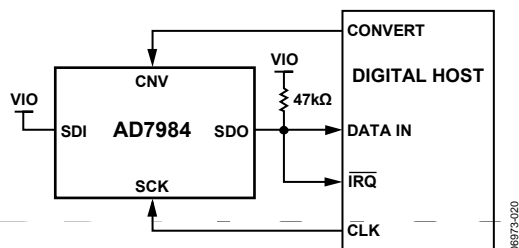
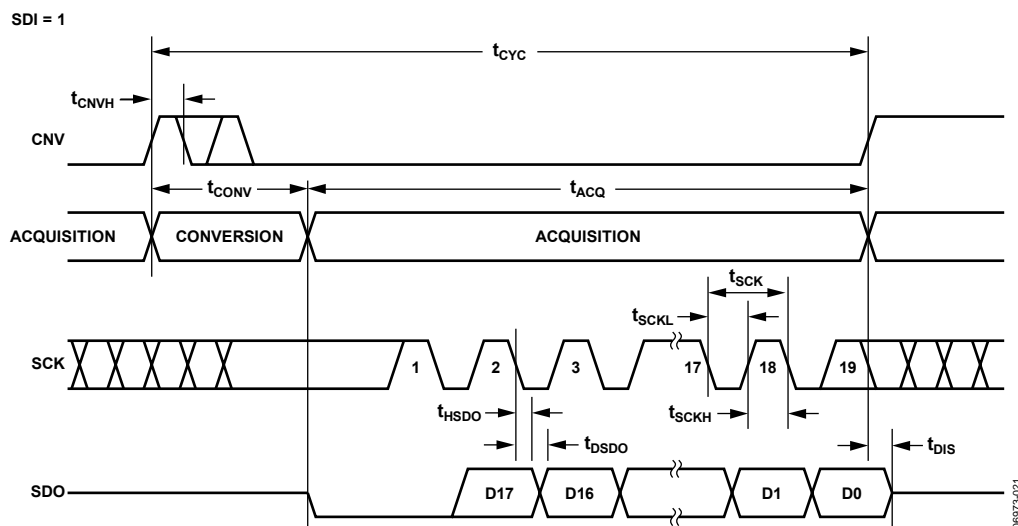
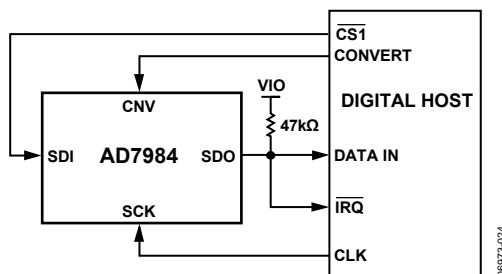
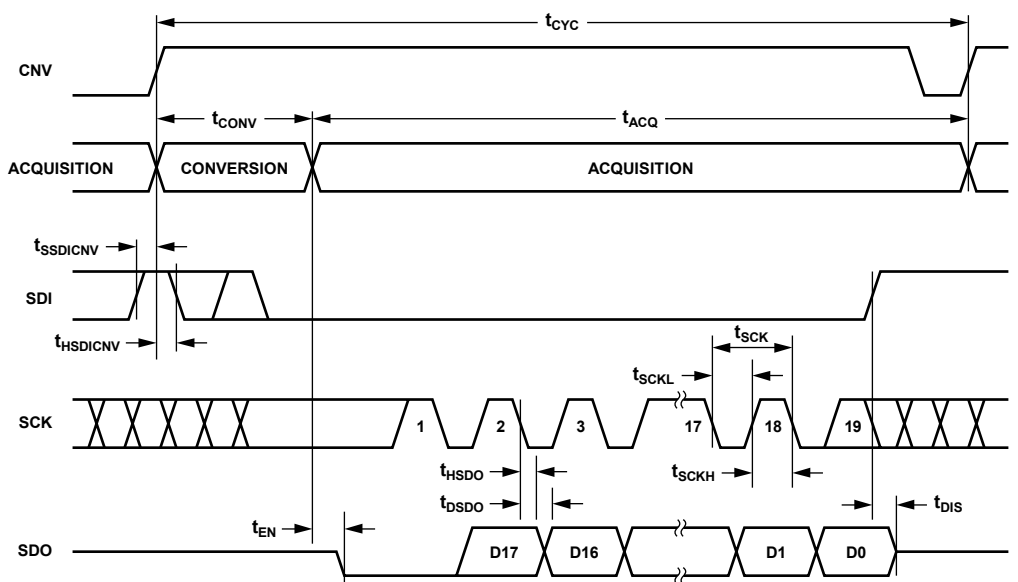

Figure 30.  $\overline{\text{CS}}$  Mode, 3-Wire with Busy Indicator Connection Diagram (SDI High)
Figure 31.  $\overline{\text{CS}}$  Mode, 3-Wire with Busy Indicator Serial Interface Timing (SDI High)
Figure 34.  $\overline{\text{CS}}$  Mode, 4-Wire with Busy-Indicator Connection Diagram
Figure 35.  $\overline{\text{CS}}$  Mode, 4-Wire with Busy Indicator Serial Interface Timing
- In  $\overline{\text{CS}}$  mode if CNV or SDI is low when the ADC conversion ends (see Figure 31 and Figure 35).
The connection diagram is shown in Figure 30, and the corresponding timing is given in Figure 31.
The connection diagram is shown in Figure 34, and the corresponding timing is given in Figure 35.